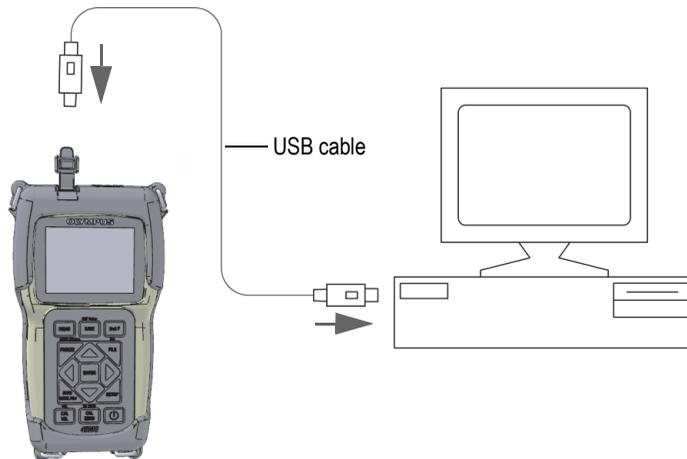

Figure 11-1 Connecting the 45MG to a computer
4. Connect one end of a USB cable to the USB client connector on the top of the 45MG, and connect the other end to a USB port of the computer (see Figure 11-1 on page 182).